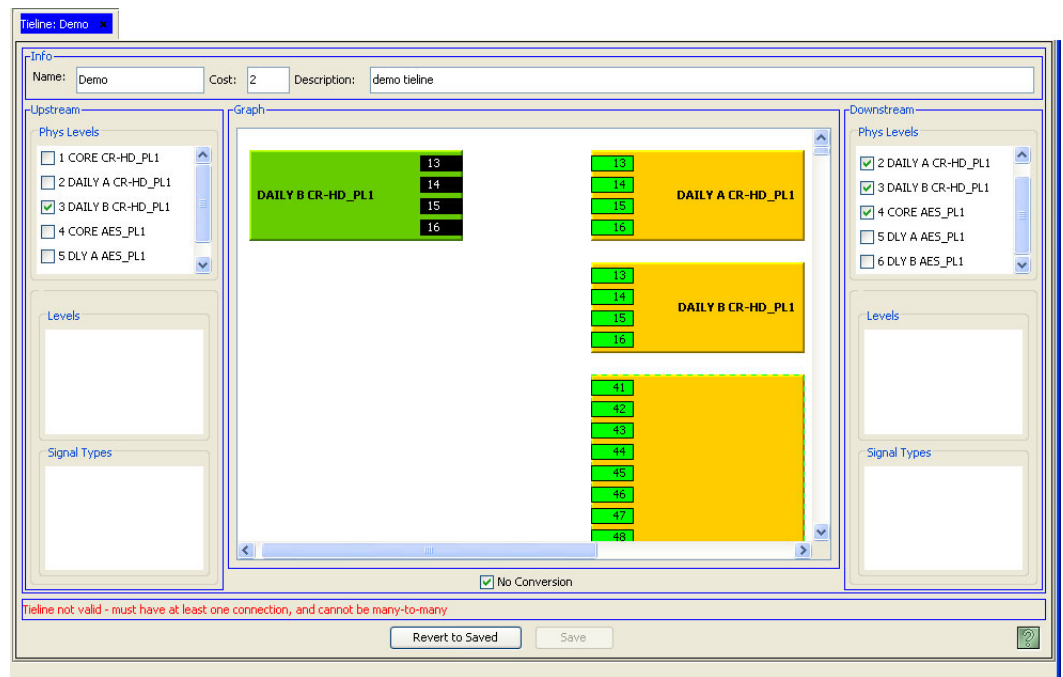

Figure 16-4. Tieline Details Page — New Tieline
- In the ‘Upstream’ section, check the check box next to the source router. The router displays as a green figure in the ‘Graph’ field, as shown in Figure 16-4. Only one upstream device may be selected.